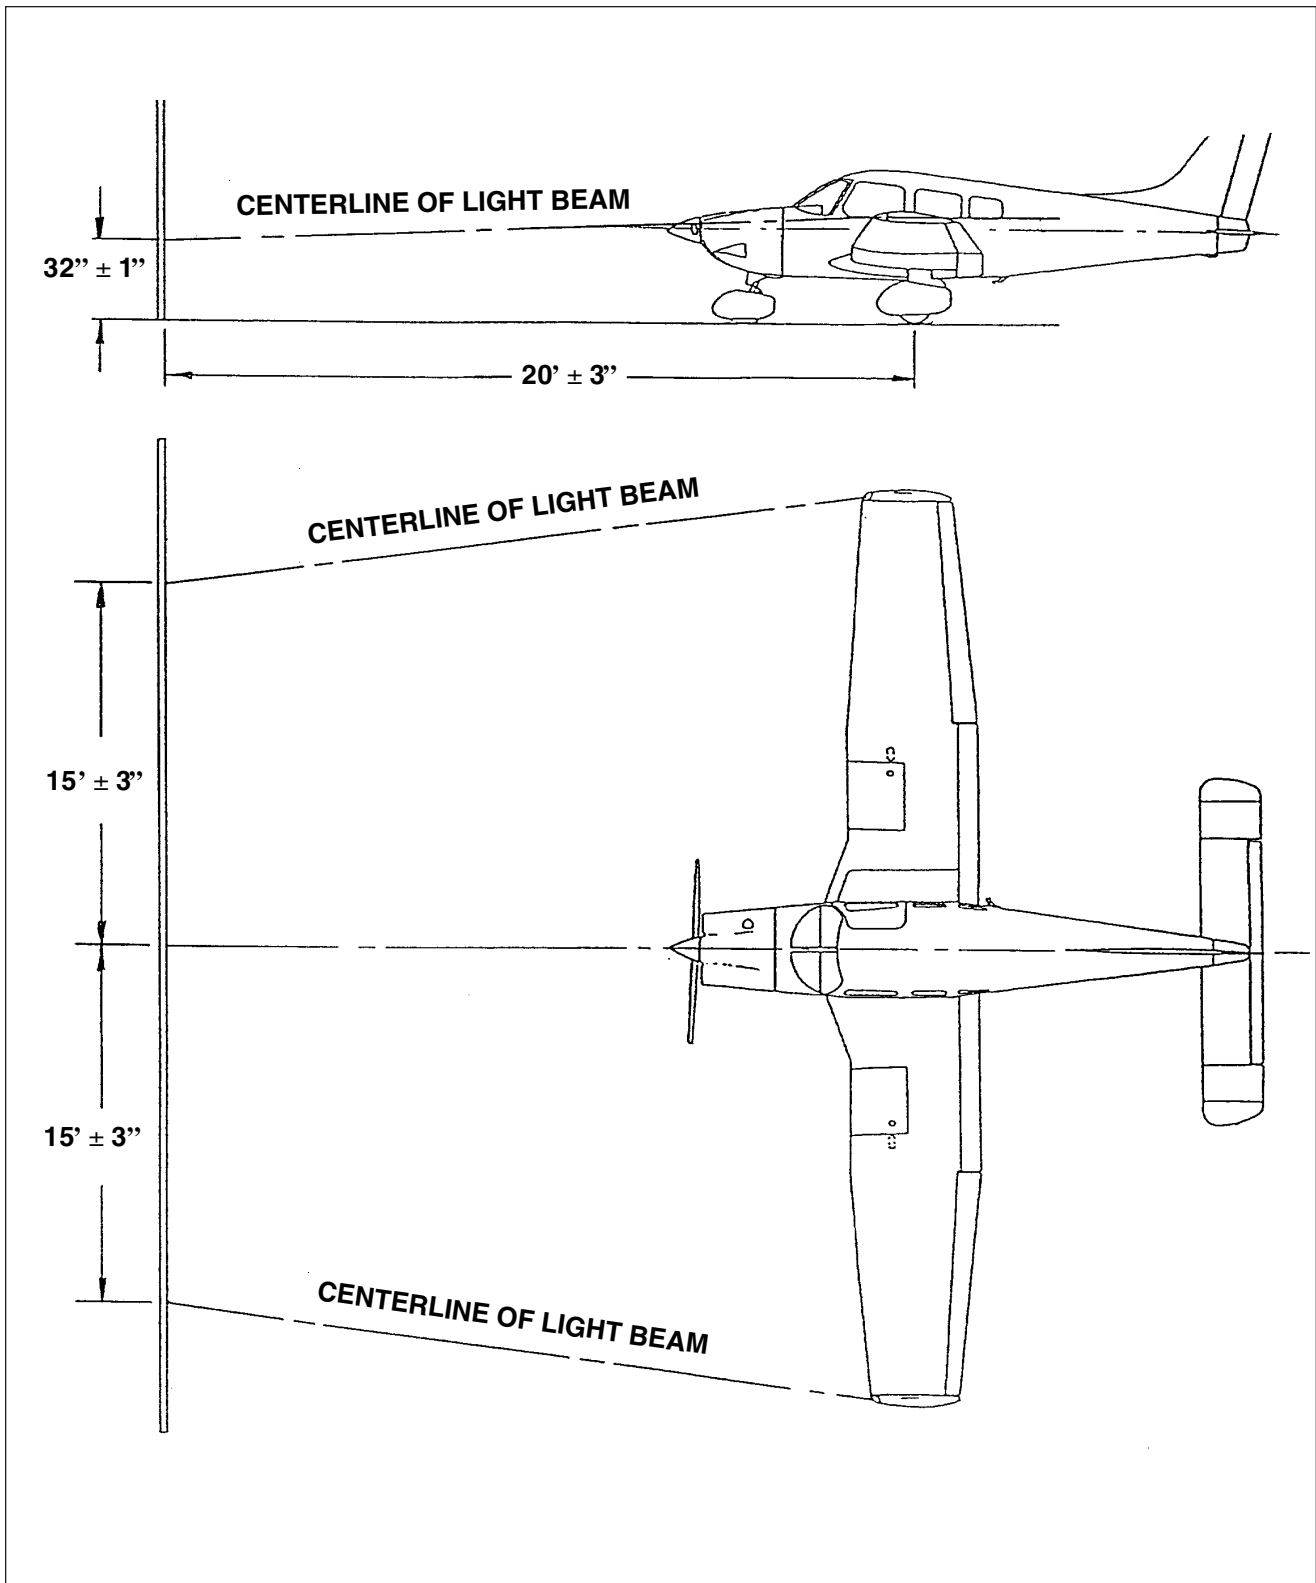

Figure 33-5. Archer III Landing Light Adjustment
- a. Locate airplane 20 feet from a target wall as shown in figure 33-5.